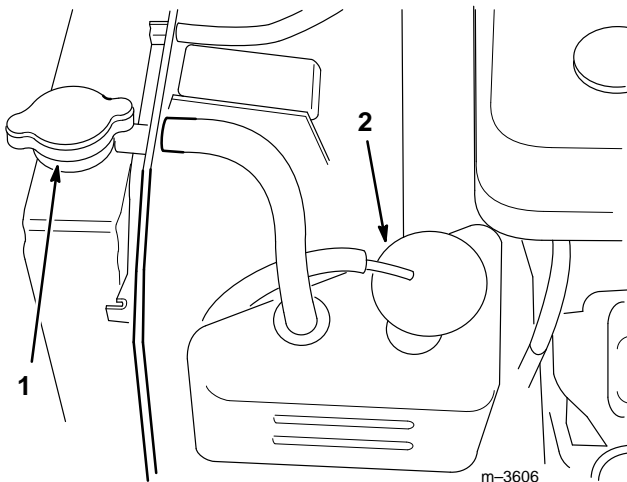

Figure 29
2. Remove the radiator cap and reserve tank caps (Fig. 29).